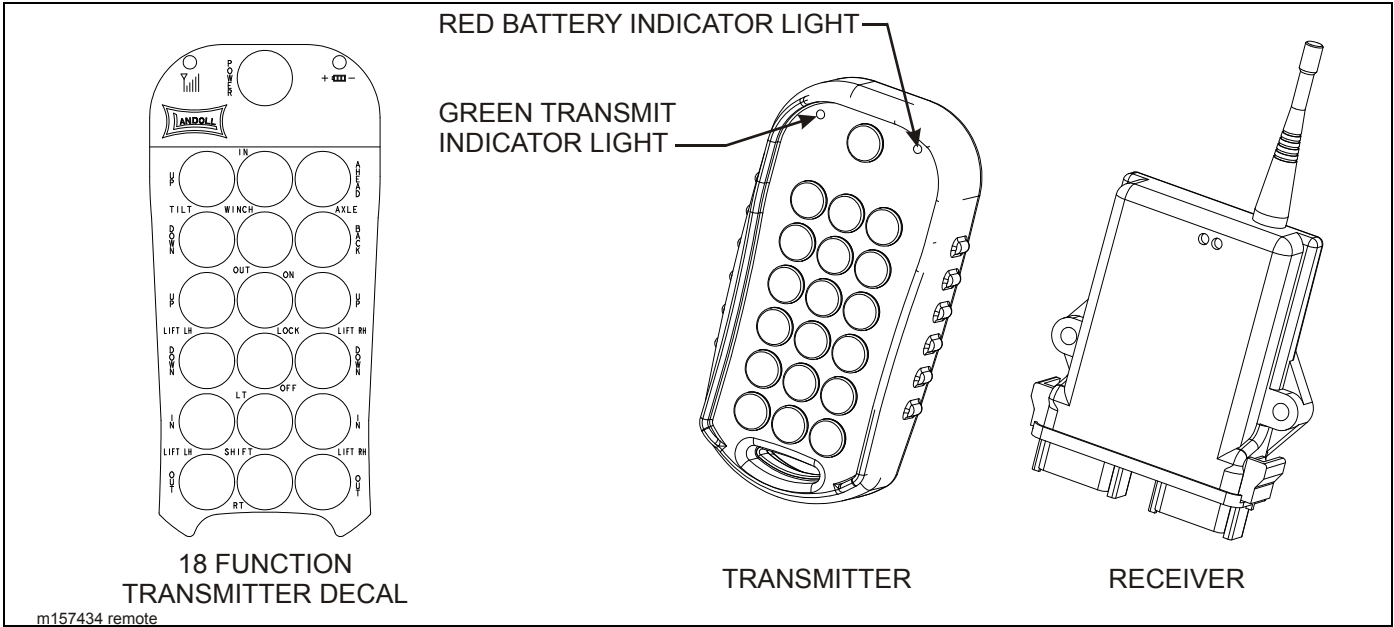

Figure 3-18: Remote Control
1. A wireless eighteen function radio remote control is provided (**See Figure 3-18.**)